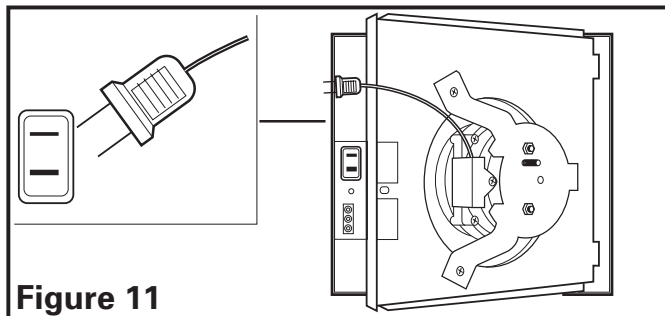

Figure 11
1. Reinstall the fan's venturi by holding it at approximately a 45 degree angle, hook the two tabs on the venturi into the slots on the housing and secure in place by tightening the venturi screw. Rotate the blower wheel by hand to ensure it spins freely. Now plug the fan motor into the receptacle (**Figure 11**).